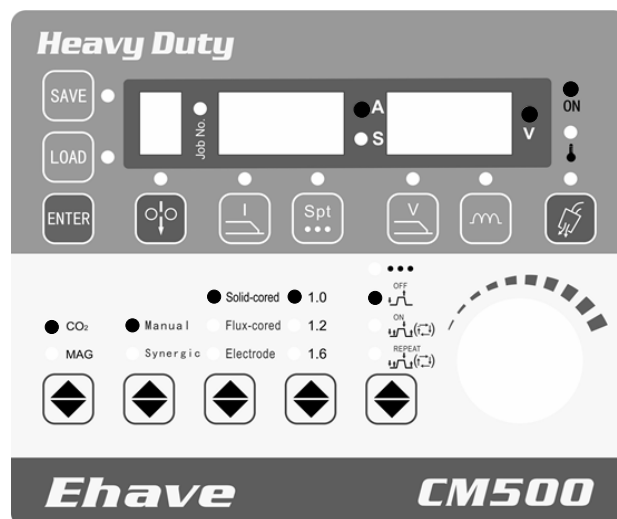

Figure 3-8 Selecting the mode of welding without ending arc
3. Perform welding after parameters are set. See Figure 3-8.